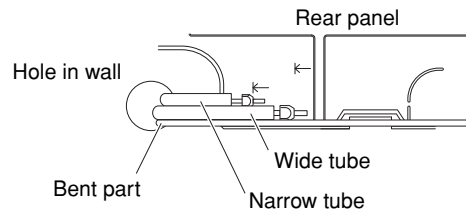

Fig. 38b
- (1) Lead the tubing and drain hose through the wall, allowing sufficient length for connection. Then bend the tubing using a tube bender to make the attachment. (Fig. 38b)